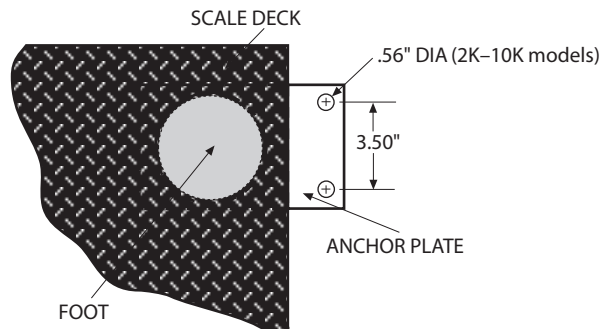

Figure 3-1. Anchor Plate Installation
3. Lower the scale back to the floor, and position the plates as shown in Figure 3-1 so that the bolt-down holes are accessible from above.